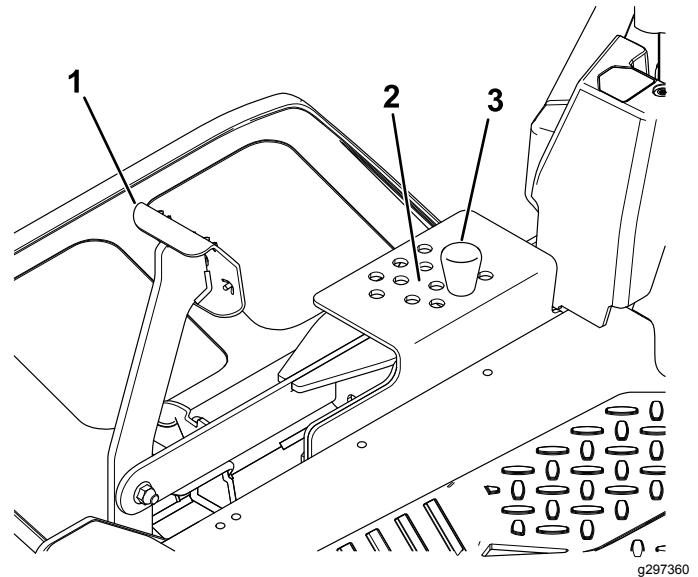

Figure 27
2. To adjust, remove the pin from the height-of-cut bracket (Figure 27).
3. Select a hole in the height-of-cut system corresponding to the desired height of cut and insert the pin (Figure 27).